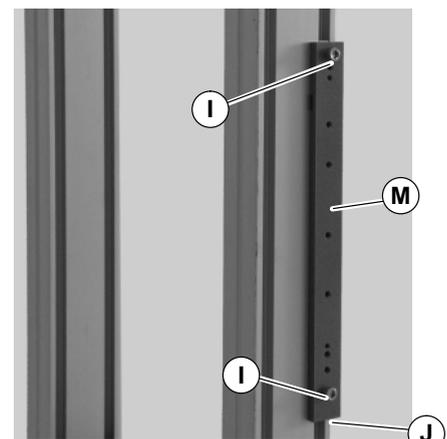

Figure 11
3. Attach mounting bar (M of Figure 11) to second T-bar (J) with screw (I). Slide mounting bar to its desired location and tighten screws (I).